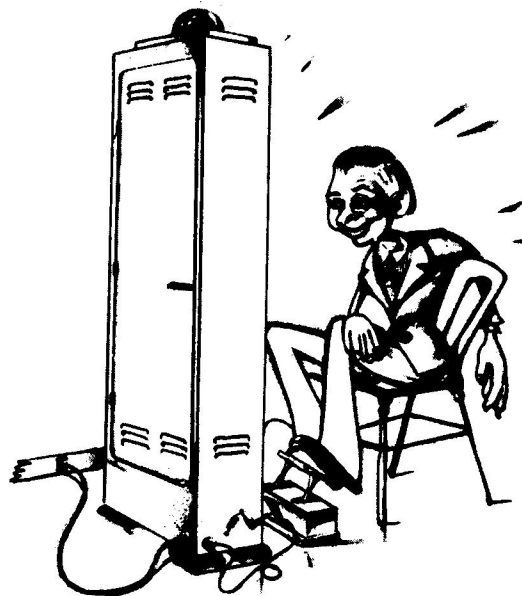

Fig. 2 Idiosynchrovisor in Use
2.09 Unlike the circuit action of conventional limiters, which is wasteful, this limiter is arranged so that the cut-off peaks are saved, amplified further, and used to advantage. Occasionally, a gratifying attribute is picked up and the resulting positive peaks are sent to the COCKLE WARMER unit, where they are dissipated in strip heaters to warm the operator's feet. See Fig. 2. Negative peaks are routed to the several SPLEEN VENTING ATTACHMENTS described in Section 3.